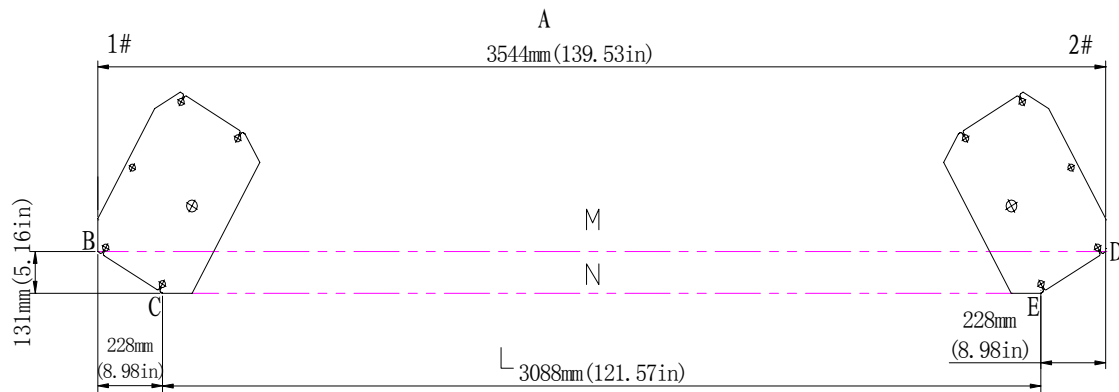

Fig.10a
TLT235SC(U) asymmetric installation is shown in Fig.10a,